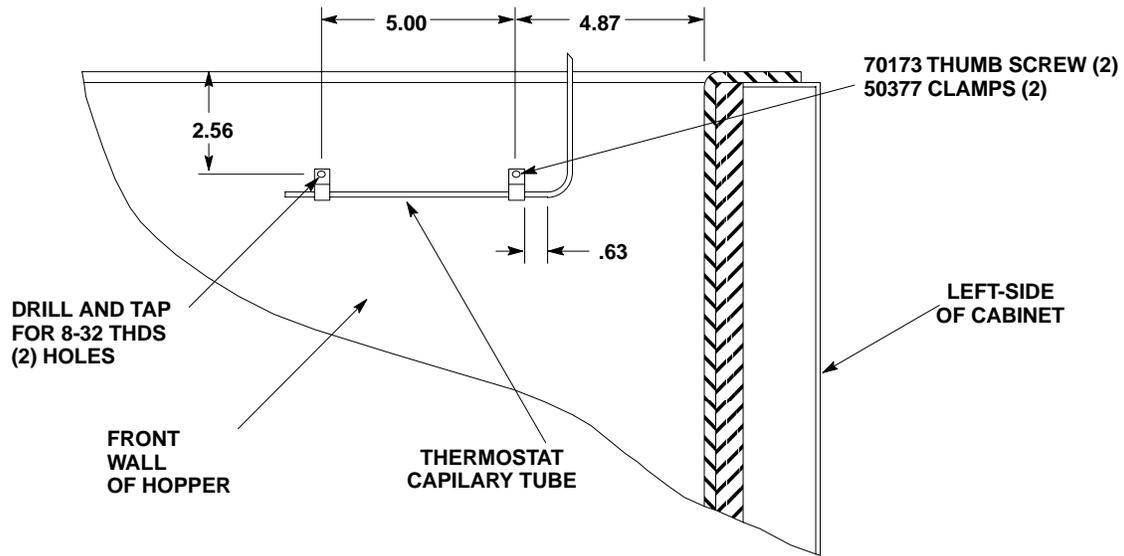

FIGURE 2
5. Locate the holes for the capillary clamps as shown in FIGURE 2. Drill the holes using a 1/8" drill bit. Install the (2) clamps in the dispenser hopper as shown in FIGURE 2. Wipe all drilling chips from the dispenser hopper.